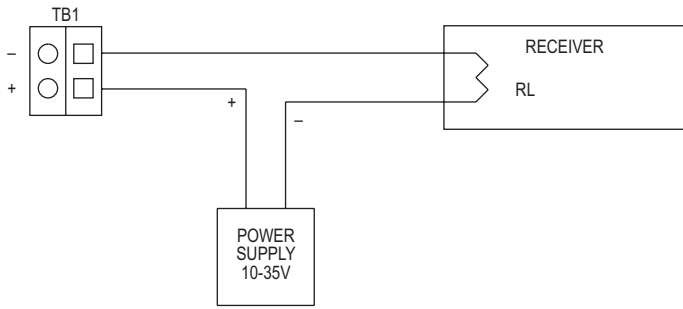
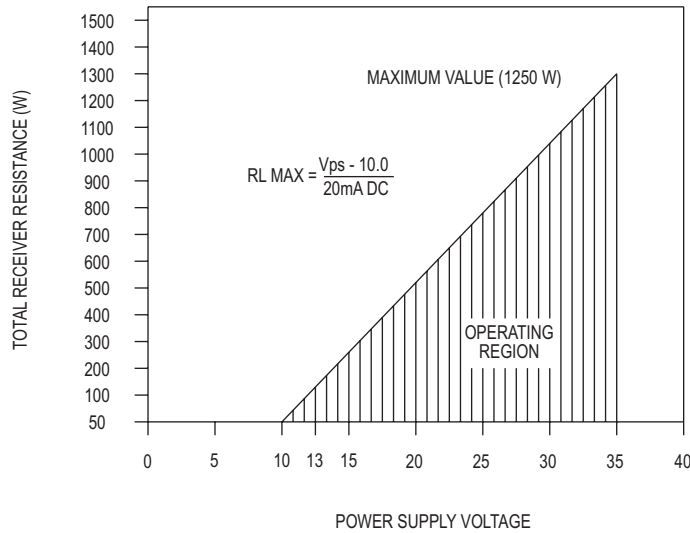

Figure 1
Figure 2
An external power supply delivering 10 to 35 VDC with a minimum current capability of 40 milliamps must be used to power the control loop in which the Magnesense® transmitter is connected. Refer to Figure 1 for connection of the power supply, transmitter and receiver. The range of appropriate receiver load resistances (RL) for the power supply voltage available is given by the formula and graph in Figure 2. Shielded two wire cable is recommended for control loop wiring and the negative side of the loop may be grounded if desired. Note also that the receiver may be connected in either the negative or positive side of the loop, whichever is most convenient. Should polarity of the transmitter or receiver be inadvertently reversed, the loop will not function properly but no damage will be done to the transmitter.